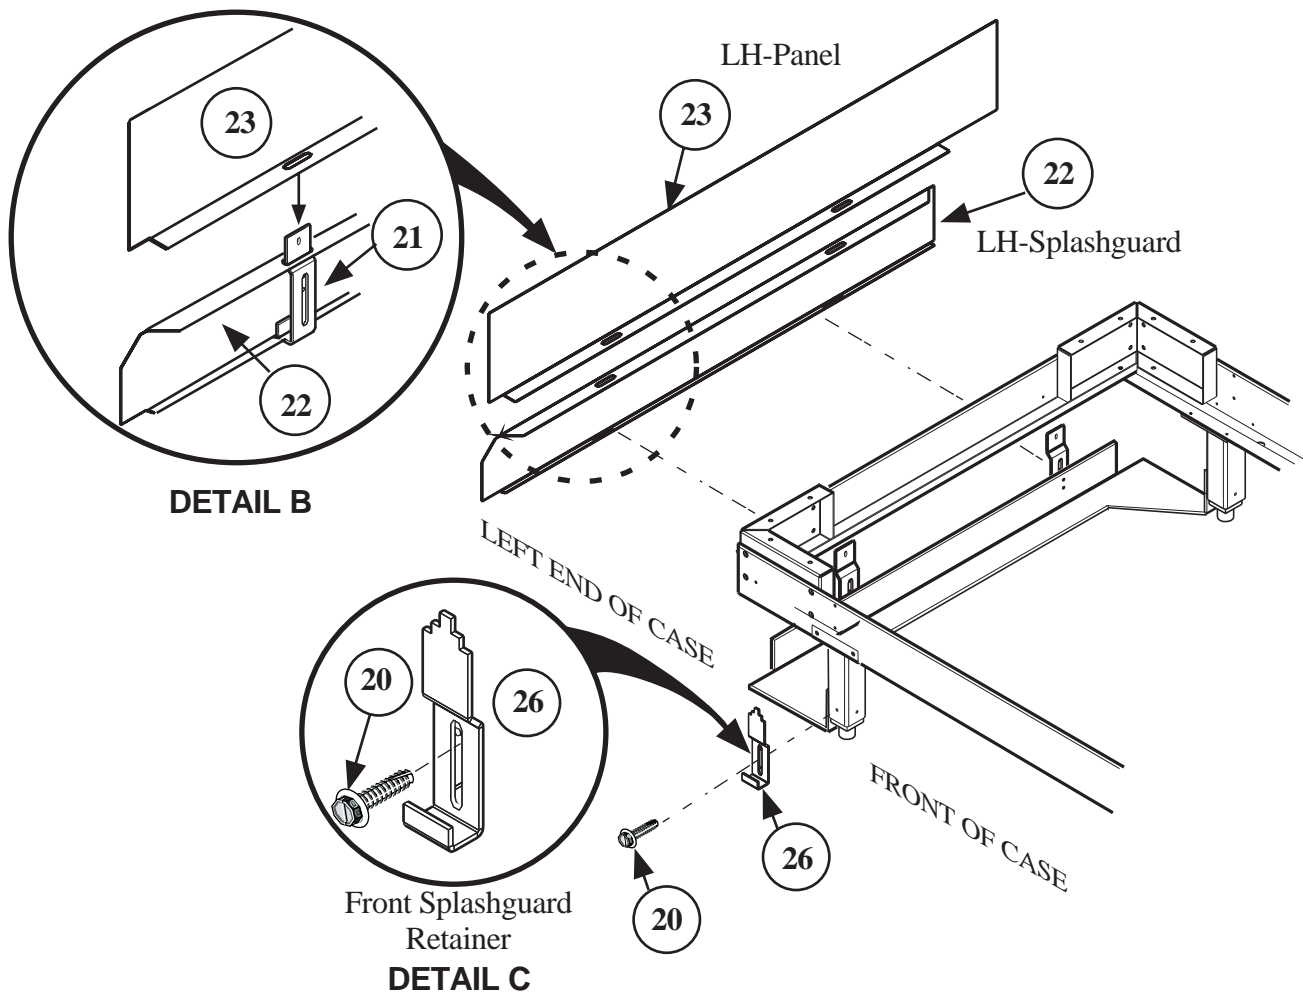

Figure 7. Installing End Splashguard, Splashguard Retainers and Lower Front Panel Retainers
(see Figure 7, Detail B).
STEP 8. Install the **RH End Splashguard – 24** and **RH End Panel – 25** following the same procedure in Steps 5, 6 and 7. (see Figures 7 and 8).
STEP 9. At the front of the case, with small hole in square leg as a guide, use a $\frac{1}{8}$ in. (4mm) drill bit and drill a hole through each leg and into leg leveler. Attach **Front Splashguard Retainers – 26** using **Screws – 20**, (see Figures 7 and 8, Details C and F).